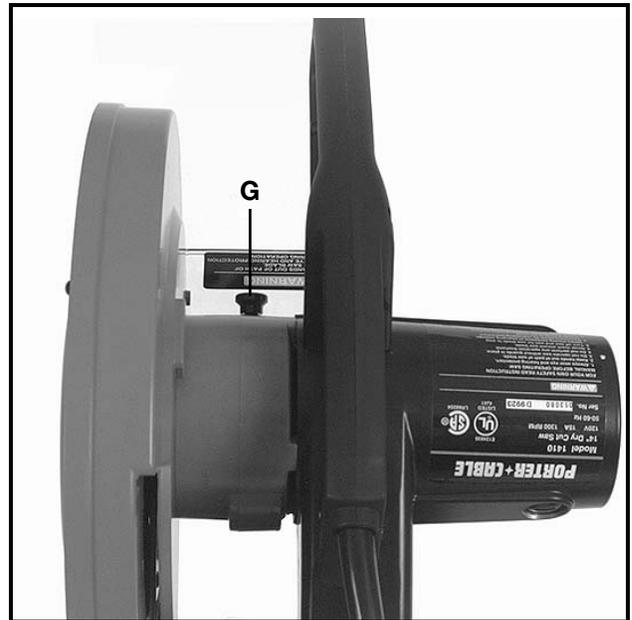

Fig. 17
2. Press in on arbor lock (G) Fig. 17, and at the same time rotate blade (H) by hand until the arbor lock engages.